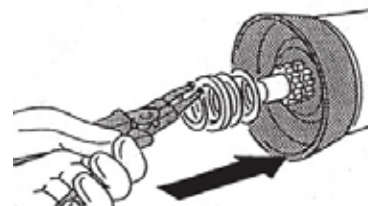

fig.120
7. Reposition the brake block and the remaining shim washers, then reinsert the snap ring into its seat on the broached shaft. (fig.120)